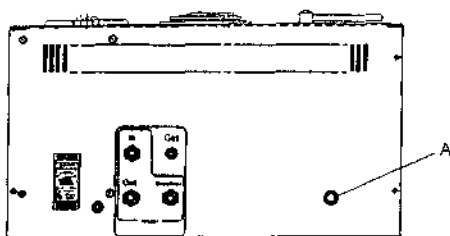
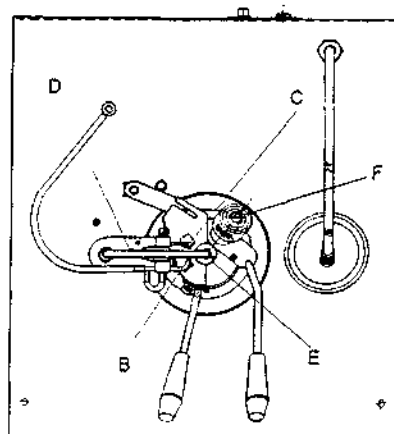

Fig 1
Fig 2
3. Light the pilot flame (Fig 2, Item B). Check that the flame extends to the reference bead (Fig 2, Item C). If necessary adjust, using the gas valve on the rear of the unit (Fig 1, Item A).
4. If necessary adjust the dip mechanism valve (Fig 2, Item D) such that the test flame is the same size as the reference bead.
6. Assemble the lid to the cup. Place into the heating block. Swing the test mechanism (Fig 2) into place and engage the stirrer drive (Fig 2, Item E). Connect the thermometer probe (Fig 2, Item F).